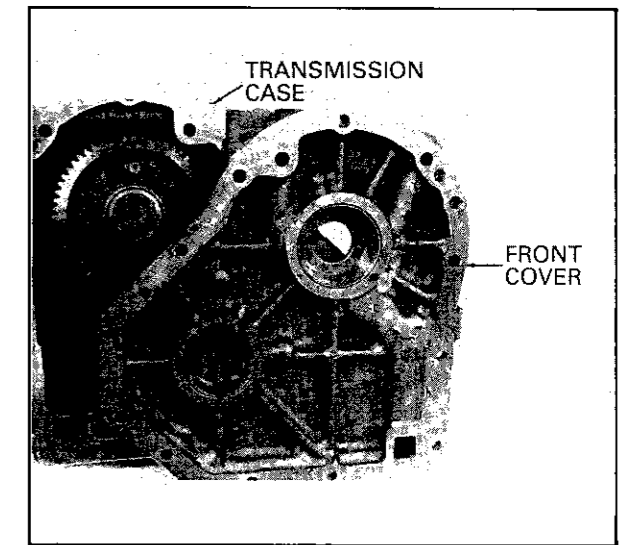

FIG. 10 FRONT COVER REMOVAL
5. Remove the front cover to case bolts. Insert a screwdriver in the pry slot and remove the front cover from the transmission. It may be necessary to remove the dowels (Fig. 10).